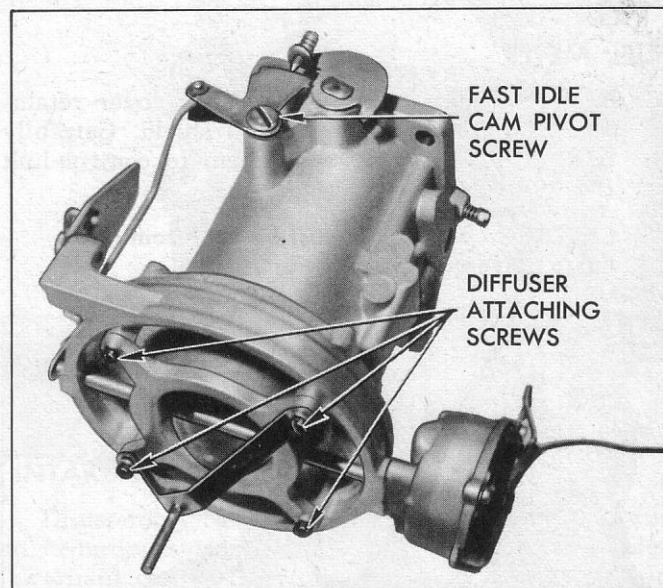

Fig. 37—Removing Diffuser Assembly
2. Remove 4 diffuser assembly screws, remove fast idle cam pivot screw (fig. 37), remove diffuser choke assembly and piezometer ring from air meter.